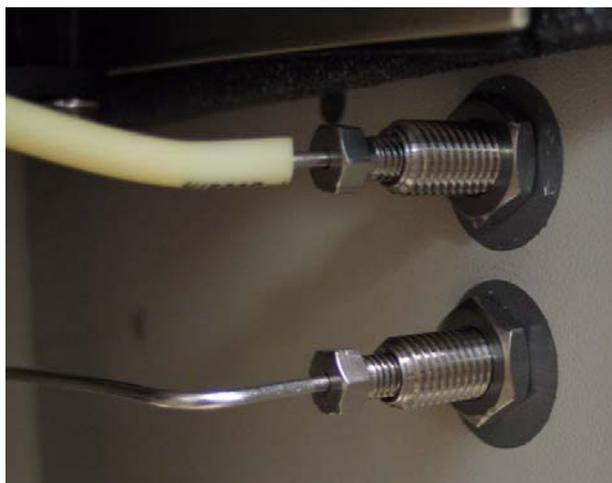

Figure 42: The Inlet and Outlet Connections Inside the Analyzer
8. Continue by testing the flow of water on the sample water side of the fluidics module. Inside the Analyzer, swap the inlet and outlet tubing connections (see Figure 42). Connect the inlet fitting to the waste port and the waste fitting to the inlet port. Loosen each of the Valco fittings and connect them to the opposite port by tightening 1/4 turn past finger-tight.